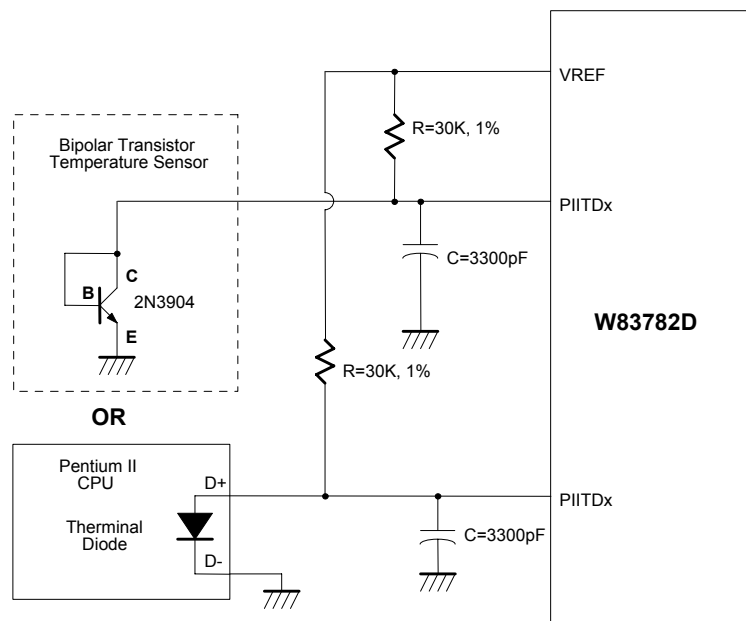

Figure 12.
The W83782D/G can alternate the thermistor to Pentium II™ (Deschutes) thermal diode interface or transistor 2N3904 and the circuit connection is shown as Figure 12. The pin of Pentium II™ D- is connected to power supply ground (GND) and the pin D+ is connected to pin PIITDx in the W83782D/G. The resistor R=30K ohms should be connected to VREF to supply the diode bias current and the bypass capacitor C=3300pF should be added to filter the high frequency noise. The transistor 2N3904 should be connected to a form with a diode, that is, the Base (B) and Collector (C) in the 2N3904 should be tied together to act as a thermal diode.